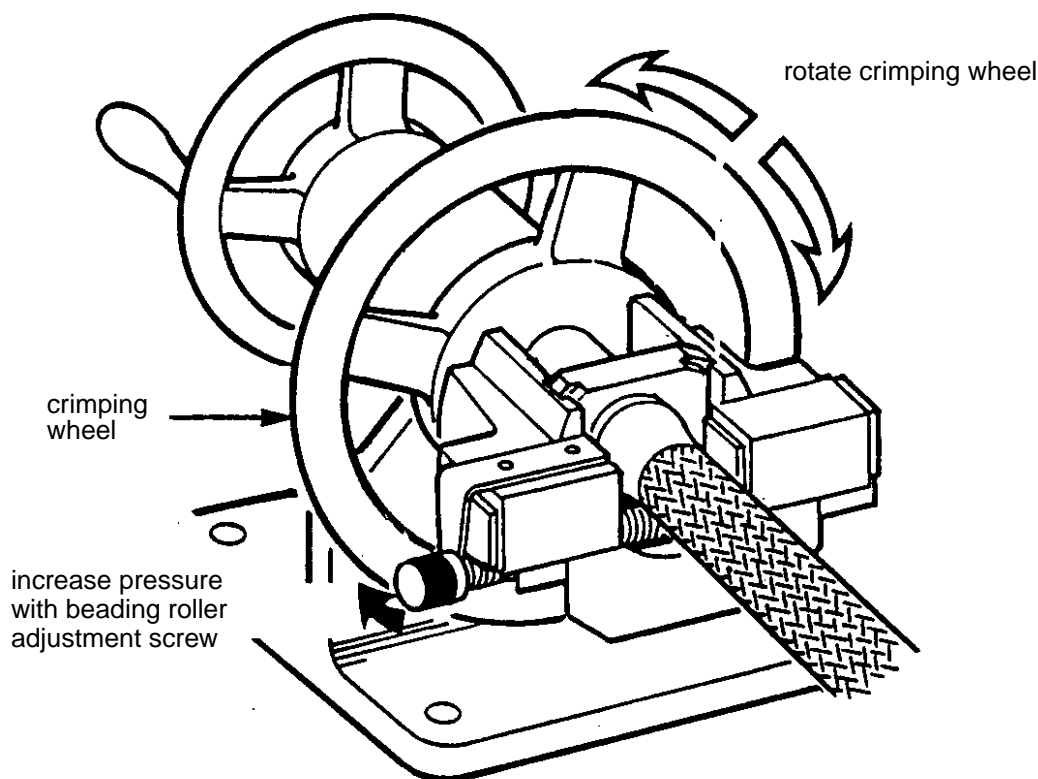

Figure 5 - Swaging of Ferrule
- Step 7. Rotate the crimping wheel to gradually increase the roller pressure. Each completed revolution of the crimping wheel will increase the depth of impression made on the ferrule (see Figure 5). Do not attempt to swage too rapidly as this may result in a cracked ferrule.